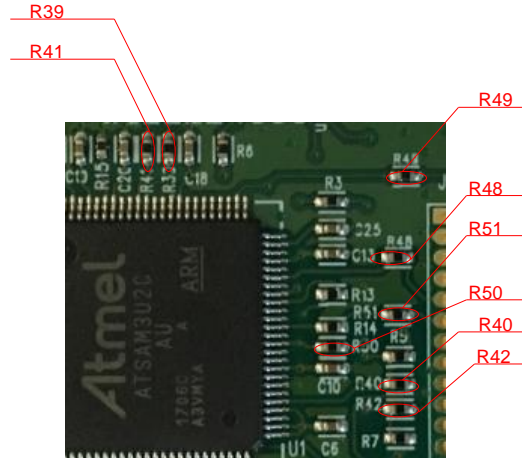

Figure 4 Location of resistors connecting IM to module
1. Remove all the resistors shown in Figure 4 (details in Table 2) to isolate the BM and then apply a 3.3V power meter at VCC_nRF (J5.2) and note the power consumed. IM is not powered.
2. Remove R19 and all the resistors shown in Figure 4 (details in Table 2) to isolate the BM and then measure the current across J5. IM is powered by any of the 3 power sources.